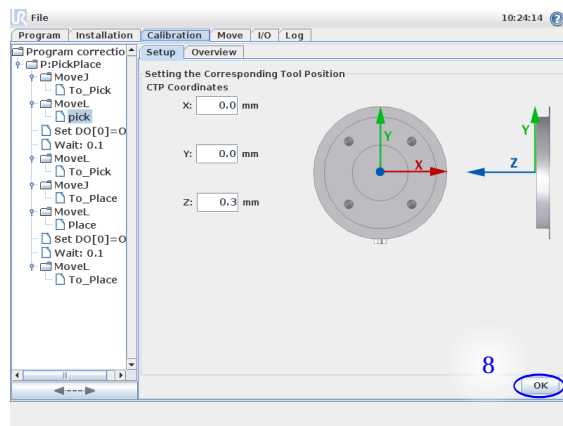

Figure 2.9: Change the CTP coordinates and press OK
(8) Change the CTP coordinates and press OK, see figure 2.9.